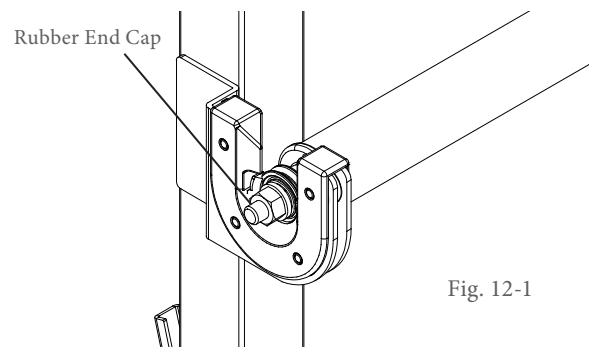

Fig. 12-1
12-1: Slide one (1) rubber end cap onto the end of each bolt sticking out of the pole ends, as shown in Fig. 12-1. If the poles are assembled properly there should be approximately 3/8'-1/2" of metal threads showing beyond the ends of each pole.